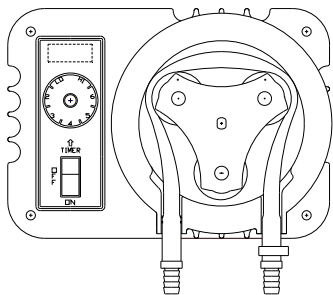

Figure 5
- 7) With switch OFF, lay Pinch Tube Assembly in outlet port as shown in Figure 5.